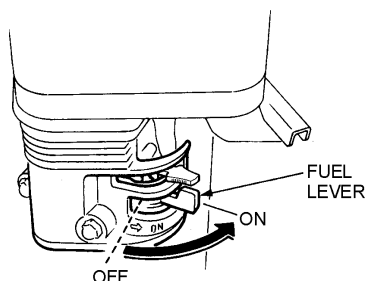

Figure 16. Fuel Valve Lever
2. Connect to water source (as applicable) see item 14 on page 44 (Water System Assembly), and test for adequate flood water [4 to 5 gallons per minute (15 to 19 LT/min)], and/or misting water [steady geometric aerosol spray at 40 psi].
3. Place the **fuel valve lever** (Figure 16) to the "ON" position.
4. Place the fuel valve lever (Figure 16) to the “OFF” position.